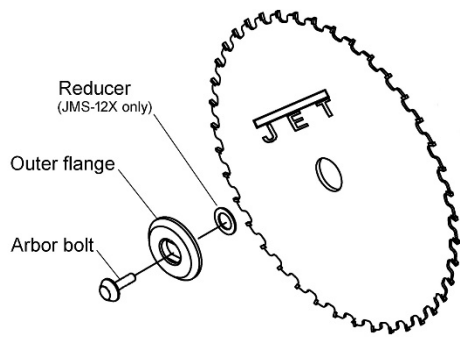

Figure 6-6
8. Remove arbor bolt, outer flange, and blade. (On model JMS-12X, also remove reducer sleeve). See Figure 6-6. Do not remove inner flange.